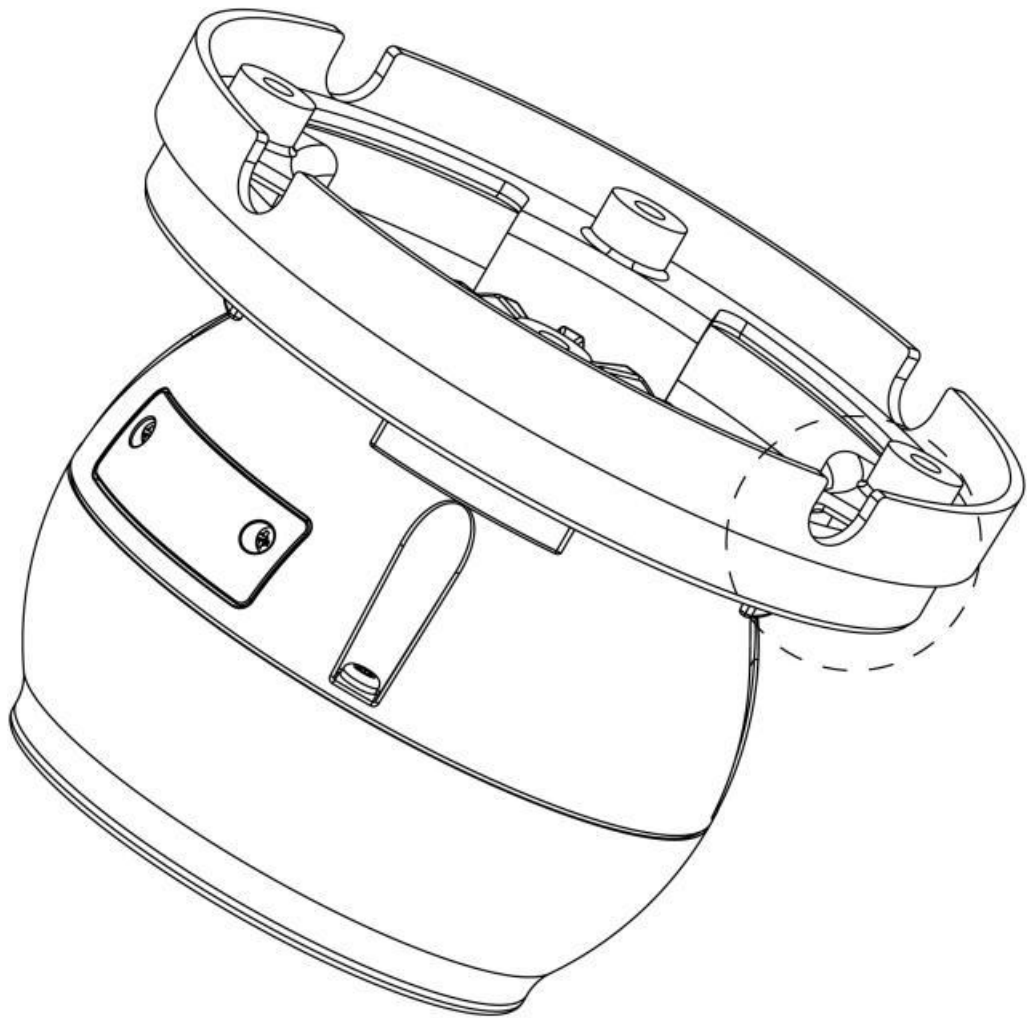

Figure 2.5 Wire Hole of the Base
1. Remove the gland and ornament from the device, pass the tail wire of the camera through the wire hole of the base as shown in Figure 2.5, and then use the attached self-tapping screws to fix the camera to the installation wall.